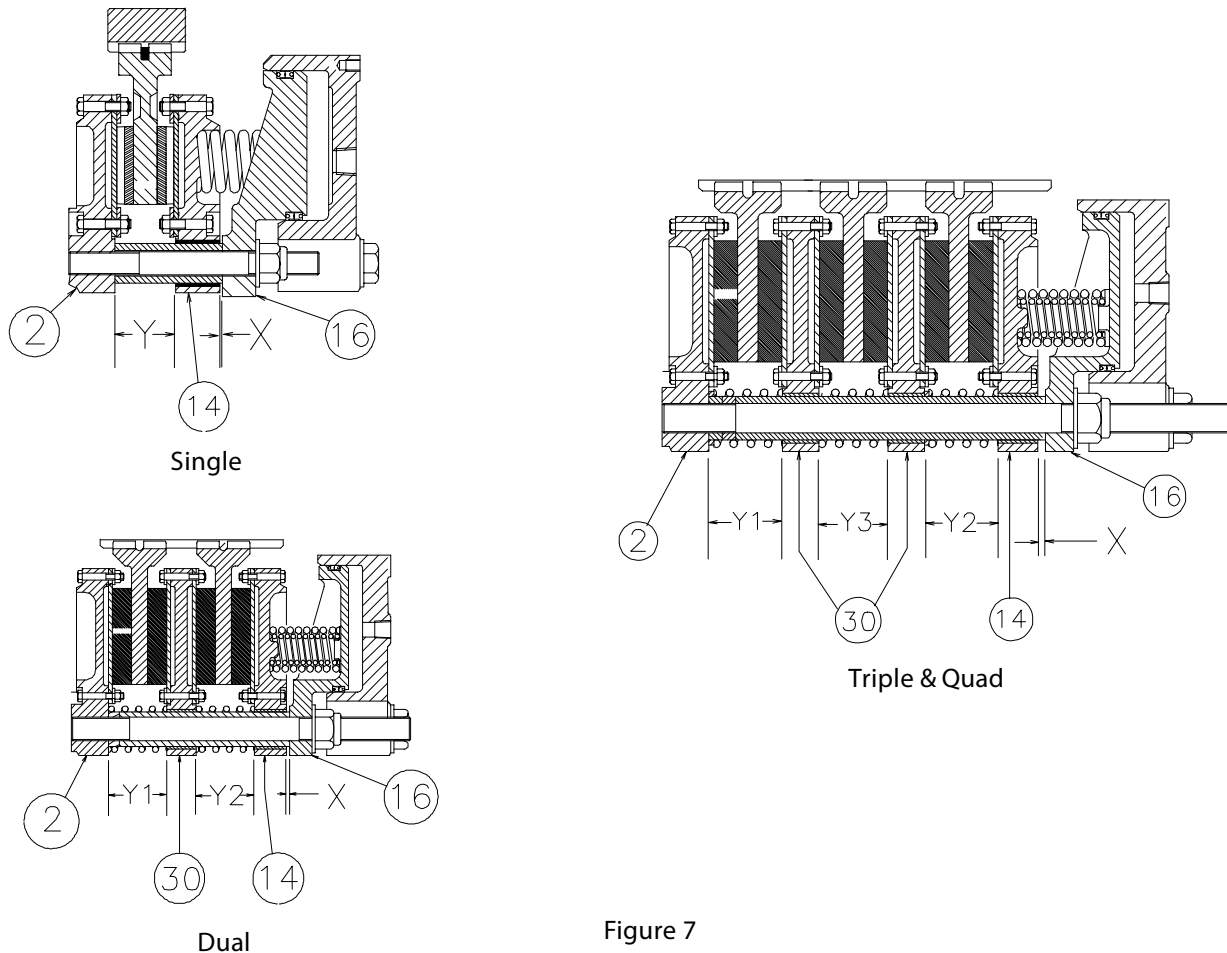

Figure 7
Exhaust all air from the cylinder to engage the tensioner. Measure the gap "X" between the spring housing (16) and the pressure plate (14) or the gap "Y₁" between the mounting flange (2) and the reaction plate (30) and the gap "Y₂" between the reaction plate (30) and the pressure plate (14) and the gap "Y₃" between reaction plates as shown in Figure 7. If any gap exceeds the limits shown in Table 11, the friction discs and/or wear plates must be inspected to ensure that the wear limits listed in Table 10 have not been exceeded.
Exhaust all air from the cylinder to engage the tensioner. Measure the gap "X" between the spring housing (16) and the pressure plate (14) and the gap "Y" as shown in Figure 7. If either dimension exceeds the limit in table 11 repair is required. Dis-assemble the unit per section 4.3 and inspect and replace parts in accordance with the wear limits on table 10.
Exhaust all air from the cylinder to engage the tensioner. Measure the gap "X" between the spring housing (16) and the pressure plate (14) to determine if adjustment is required. Measure the gap "Y₁" between the mounting flange (2) and the reaction plate (30) and the gap "Y₂" between the reaction plate (30) and the pressure plate (14) and gap Y₃ as shown in Figure 7. If the "X" dimension is exceeded but any of the "Y" dimensions are less than the limits shown in Table 11 **AND** none of the friction discs are worn to the bottom of the wear groove, adjustment is required.